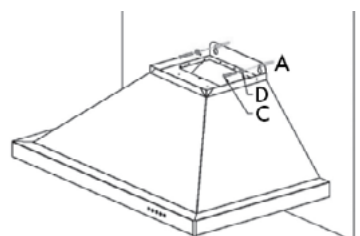

Figure 2
2. Drill holes into each mounting point with a suitable sized bit. Tap 2 anchors (A) into the holes, then fasten 2 mounting screws (C) and washers (D), making sure to leave the screw heads out roughly 1/4" in order to mount the hood. *Figure 2*
3. Using at least two people, mount the main body of the hood onto the two screws and slide into place. *Figure 2*